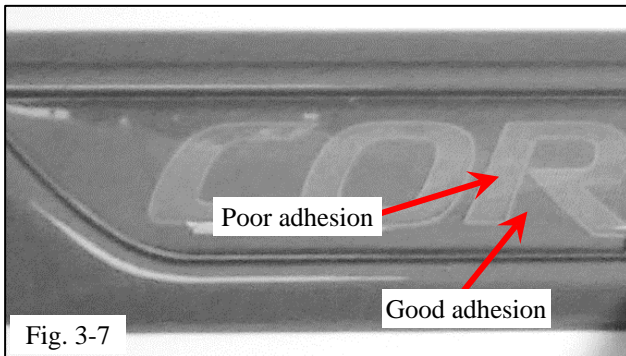

Fig. 3-7
**NOTE:** To ensure full adhesion of the part, be mindful of areas that are lighter in color than the surrounding badge. Fig. 3-7 illustrates a badge with poor adhesion, where the poorly adhered areas are light and can be differentiated from the darker areas that have good adhesion.